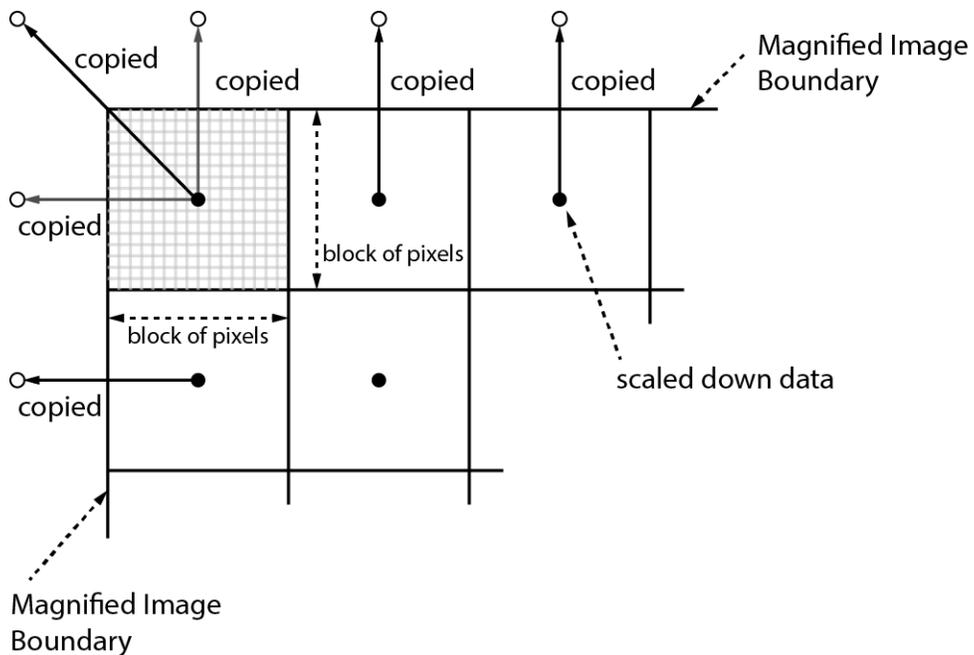

Figure 8.36 Bilinear Interpolated Magnification
5. Use the “sfc” command to enable the Flat Field Correction feature. The Flat Field data will be expanded and then applied as shown in the Figure 8.36.
6. In the **FFC** tab, click the **Save to Flash** button in the **Flash Memory** category to save the generated Flat Field Correction data into the non-volatile memory. The Flat Field data will be expanded and then applied as shown in the Figure 8.36 when they are used for correction.
4. Execute the "sfd" command to save the generated Flat Field Correction data in the non-volatile memory. The Flat Field data will be expanded and then applied as shown in the Figure 8.36 when they are used for correction.
4. In the **FFC** tab, click the **Save to Flash** button in the **Flash Memory** category to save the generated Flat Field Correction data in the non-volatile memory. The Flat Field data will be expanded and then applied as shown in the Figure 8.36 when they are used for correction.